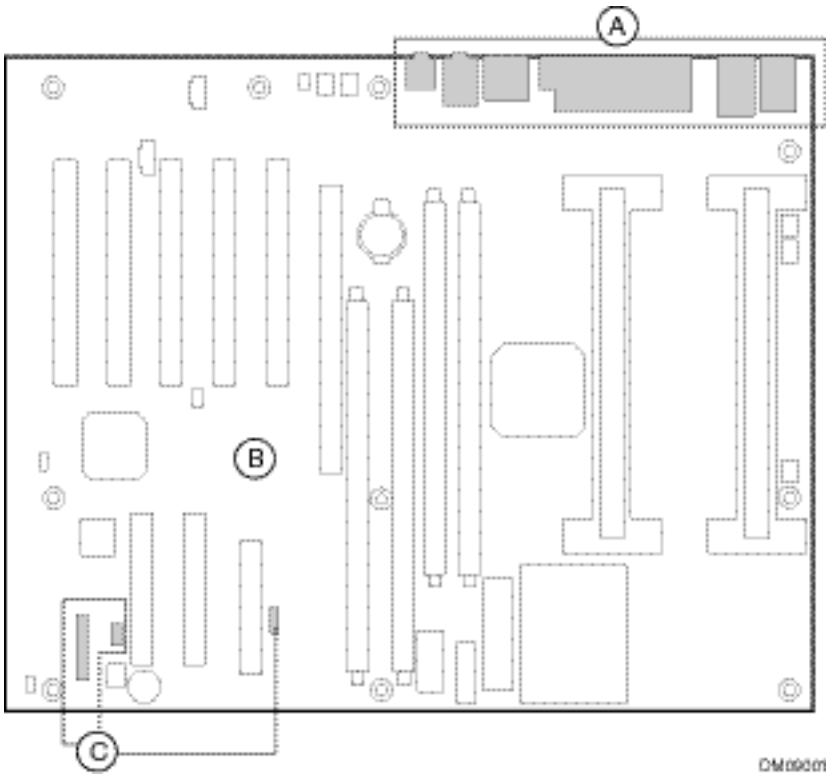

Figure 28. Connector Groups
This section describes the Workstation Board's connectors. The connectors can be divided into three- (3) groups as shown in Figure 28.